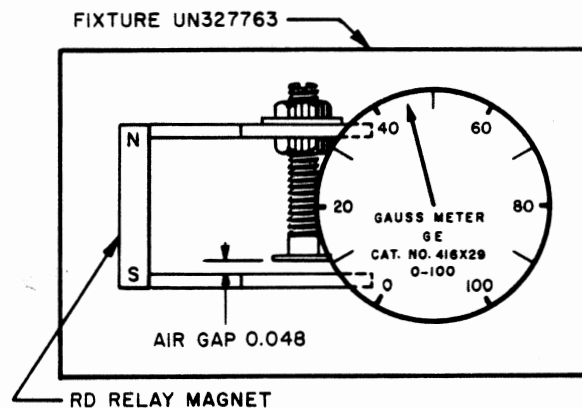

Figure 3 - Use of Gauss Meter Fixture
3. Check magnet strength by applying magnet to the gauss meter fixture as shown in Figure 3. The reading should be no less than 100 gauss. Actual magnet strength is much higher since the fixture is arranged to measure only a part of the total flux.